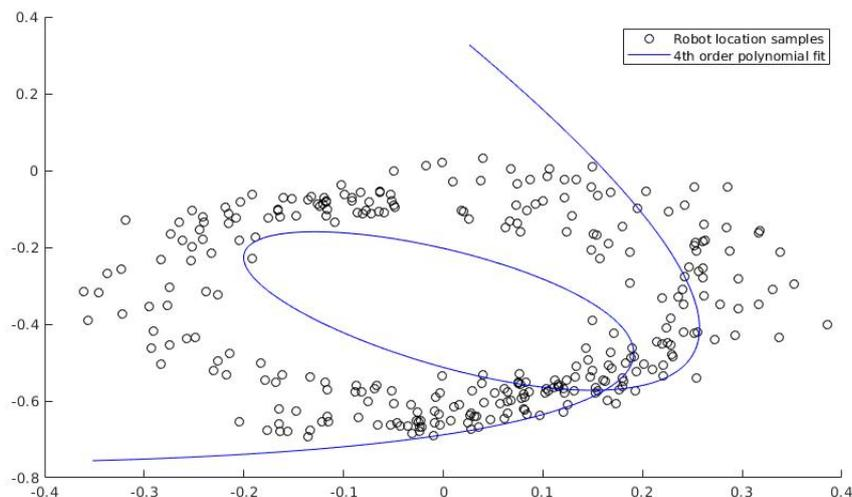

Figure 1: Fit from Exercise 7
- (d) MATLAB: Compute the simulated trajectory using $\boldsymbol{\theta}^*$ and plot it versus the measurements using the provided code and compare it to the 4th order polynomial fit shown in Figure 1 (this is what you did for the last exercise sheet).